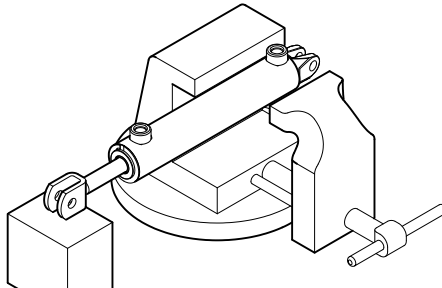

Figure 4-4, Cylinder Vise
2. Clamp the cylinder lightly at the base end in a soft jawed vise. Use a block or other support under the rod end of the cylinder. (Figure 4-4)